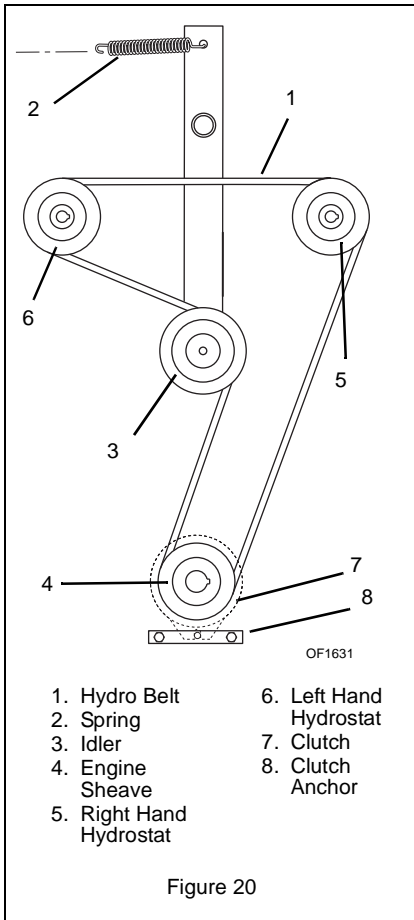

Figure 20
4. Remove old hydro pump belt from right hand hydrostat sheave first (Figure 20).